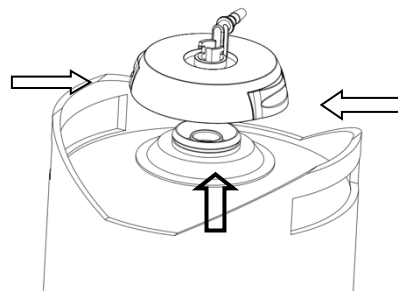

Figure 16
5. Press the left and right buttons on the beer valve device to pull the beer valve device out of the empty beer barrel (as shown in Figure 16).